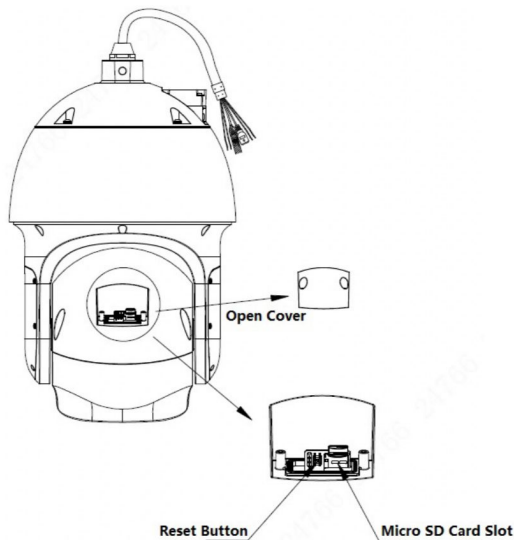

Figure 2-4
Step 1 See Figure 2-4 for Cover location. Remove the cover. Skip to Step 3 if only installing SD Card.